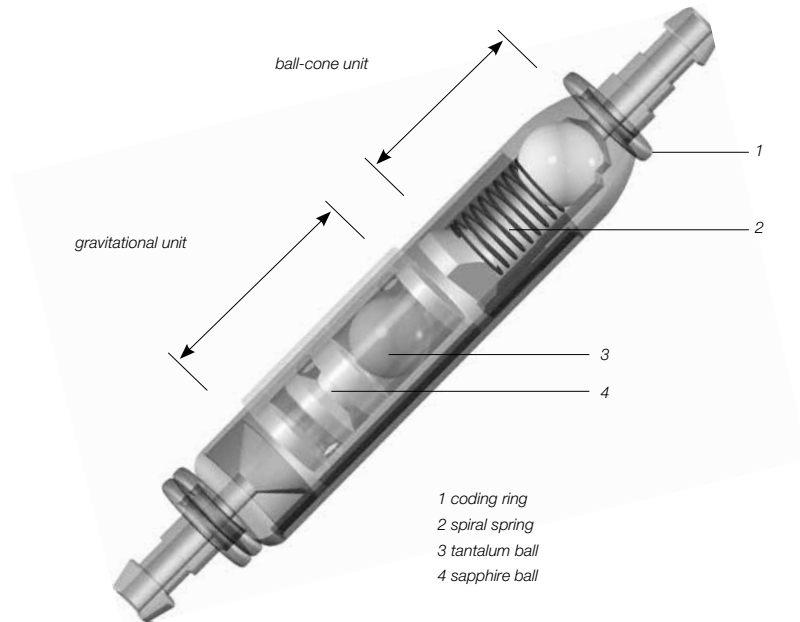

Fig. 1: Schematic cross section of the *paediGAV*
Fig. 1 shows a schematic cross section of the *paediGAV*. It consists of a sturdy titanium casing, which houses, in its proximal section, a welltried ball-cone unit. A spiral spring (2) maintains the opening pressure of the ball-cone unit. The gravitational unit in the distal part consists of a tantalum ball (3), which defines the opening pressure of this valve, and a sapphire ball (4), which ensures its precise closure.